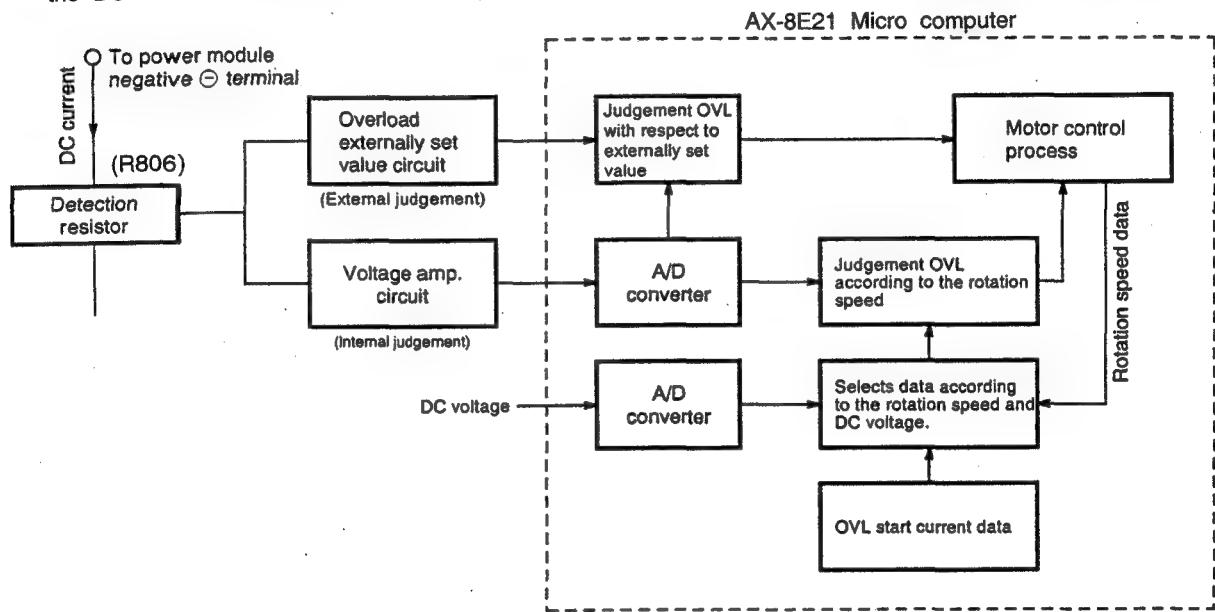
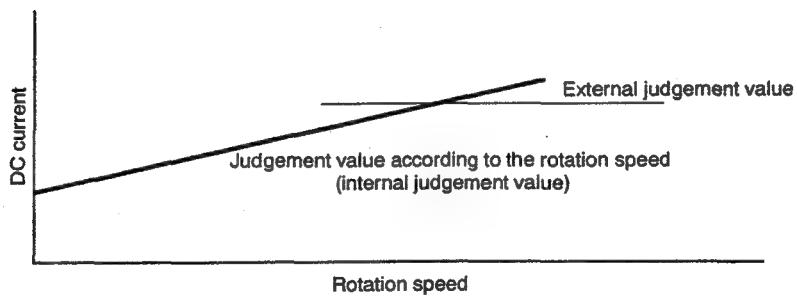

Fig. 8-4 Overload Control System Configuration
Fig. 8-5
- As shown in the figure, when current exceeding 18A flows, voltage at point A detected by detection resistor is input to \oplus terminal of COM (A). If it exceeds \ominus terminal voltage, which is set value, output pin voltage (point B) of COM (A) changes from Lo to Hi. Thus, Q1 is turned ON to stop drive circuit and, at the same time, voltage at point C changes from Hi to Lo to send Ip signal to pin ② of microcomputer (observed by pin ③ of HIC) and microcomputer stops drive.
- Just before drive signal is output the next time, Microcomputer switches pin ② from Hi to Lo (observed by pin ③ of HIC), so that \oplus terminal voltage $<$ \ominus terminal voltage to release memory function and return to initial state.
(2) Overload control circuit (OVL control circuit)
- Fig. 8-4 shows the overload control system configuration and Fig. 8-5 is a characteristic diagram of overload judgement values. There are two judgement methods-external judgement which compares the externally set value with the DC current value regardless of the rotation speed and internal judgement which compares the set value that varies according to the rotation speed programmed in the micro computer software with the DC current value.